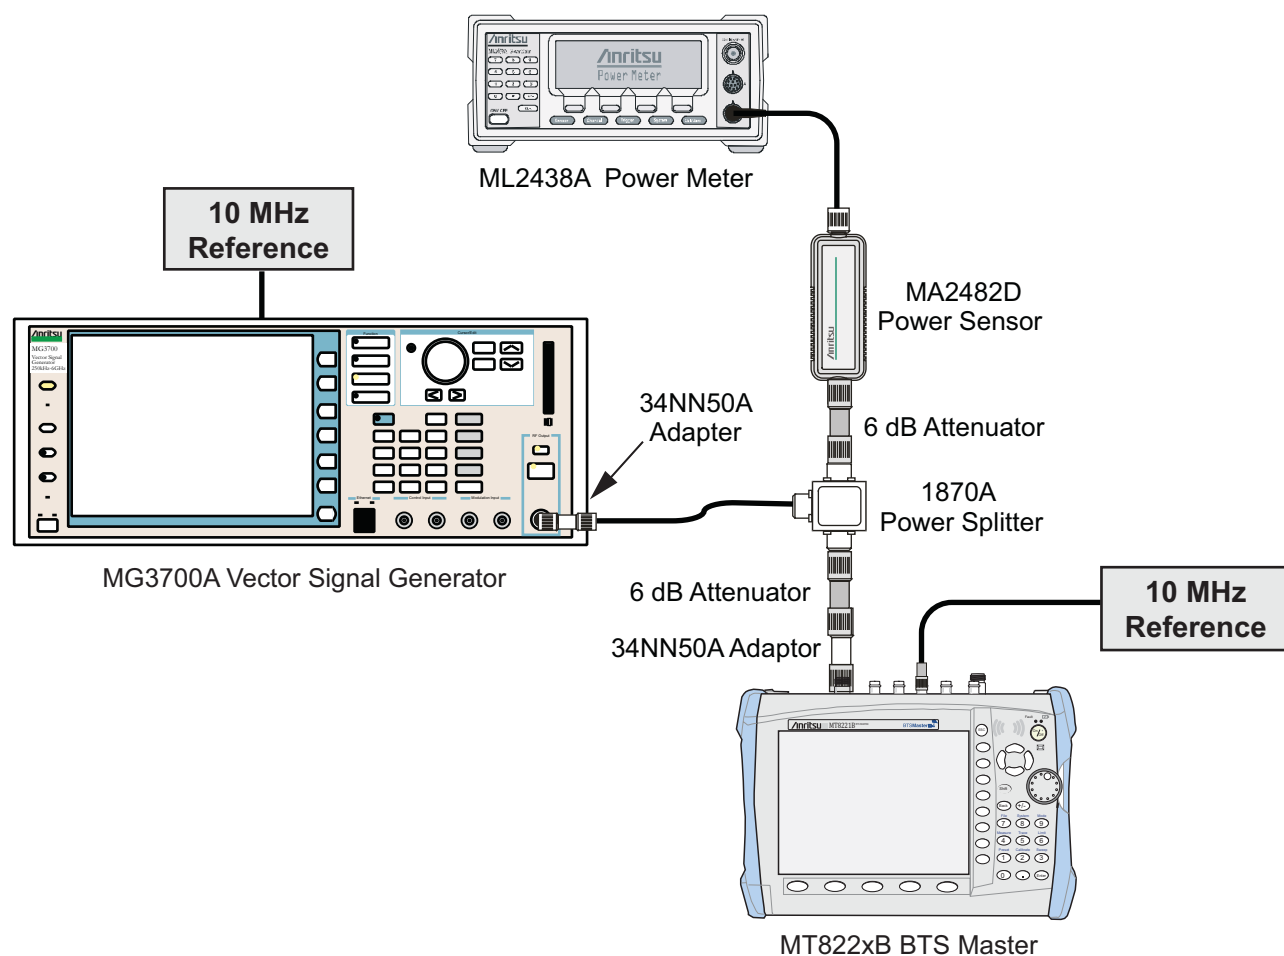

Figure 5-12. TD-LTE Signal Analyzer Option Verification
4. Connect the Power Sensor, 1870A splitter, 6 dB attenuators (quantity 2), as shown in Figure 5-12, "TD-LTE Signal Analyzer Option Verification".
4. Connect the Power Sensor, 1870A splitter, 6 dB attenuators (quantity 2), as shown in Figure 5-12.